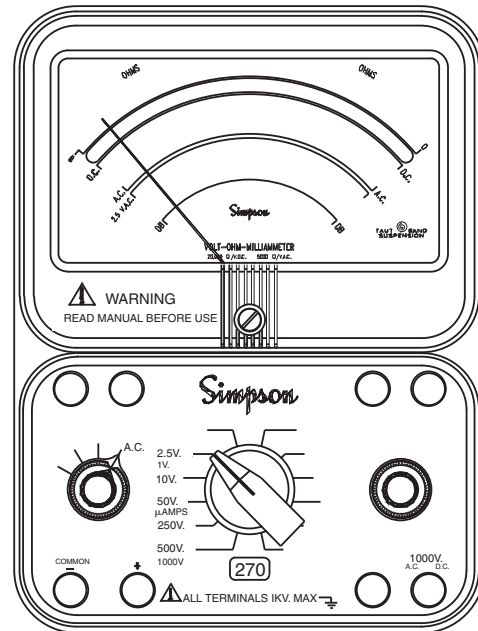

Figure 4-3. Jacks and Switch Positions for measuring AC Voltages
- Set the function switch at AC (Figure 4-3).
- a. Set the function switch at AC (Figure 4-3).